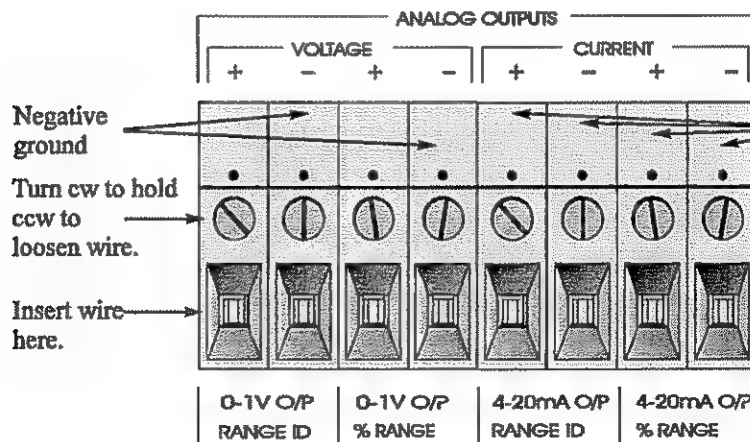

Figure 2-5: Analog Output Connections
**Analog Outputs:** There are eight DC output signal connectors on the ANALOG OUTPUTS terminal block. There are two connectors per output with the polarity noted. See Figure 2-5.